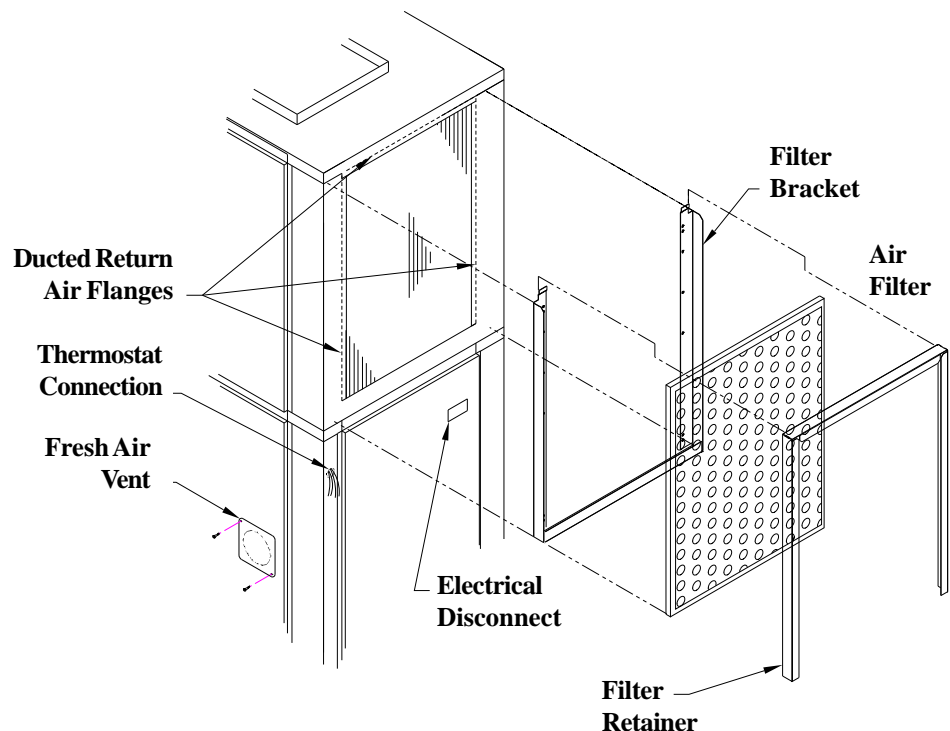

Figure 3 - Filter Bracket Detail
5. The SPX is equipped with bend out flanges (Fig. 3), next to the evaporator coil, for the purpose of attaching a return air duct. If ducted return air is required these flanges must be bent 90 degrees away from the face of the evaporator coil along the perforations.
6. If an air filter is to be applied to the unit install the filter bracket by inserting the tab portion of the rack between the insulation and middle plate under the drain pan (Fig. 3). Place a 20" x 24" x 1" filter into the filter rack. Insert the two tabs on the filter clip into the slots above the evaporator and hook the front flange under the filter flange to hold the filter in place.
7. A fresh air make up vent is located on the lower left side door (Fig. 3). Remove one screw and rotate the plate to expose the desired amount of vent opening. Replace the screw to hold the door in desired location.
13. Connect low voltage thermostat wires from remote thermostat to the SPX unit (Fig. 3).